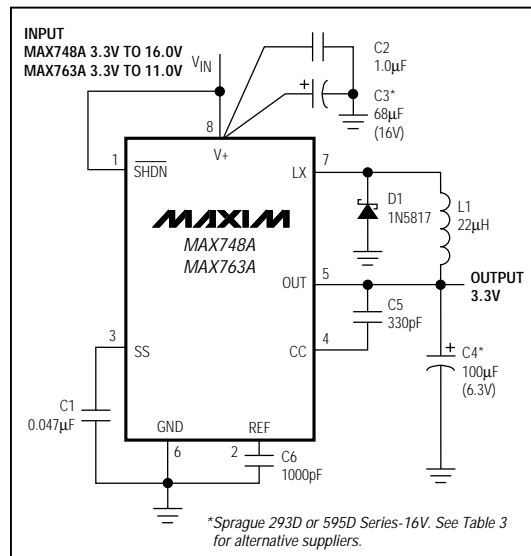

Figure 5. Standard 3.3V Step-Down Application Circuit Using Surface-Mount Components (Commercial and Extended Industrial Temperature Ranges)
- Note 3:** Wide temperature range circuit of Figure 5 using Sprague surface-mount capacitors.